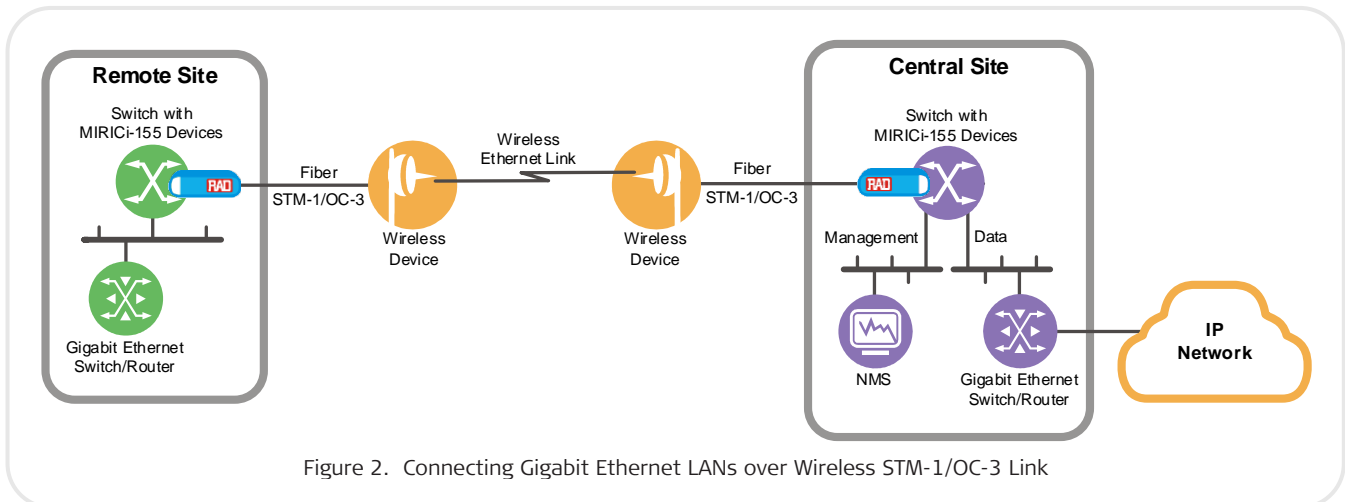

Figure 2. Connecting Gigabit Ethernet LANs over Wireless STM-1/OC-3 Link
- Wireless STM-1/OC-3 links (*Figure 2*).